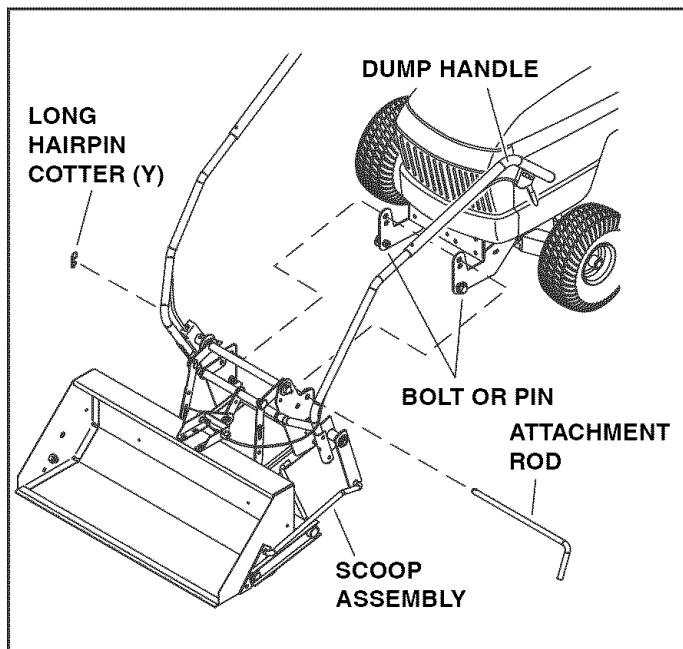

FIGURE 23
STEP 24: MOUNT SCOOP TO TRACTOR (SEE FIGURE 23)
- Align the scoop with the side plates on the front of the tractor. Lift the rear of the scoop and slide the notches in the scoop frame onto the bolts or pins in the tractor side plates. Stand on the left side of the tractor and push down on the scoop dump handle until the holes in the scoop frame and the holes in the side plates are aligned. Install the attachment rod through the holes from the left side and secure it with a long hairpin cotter (Y).